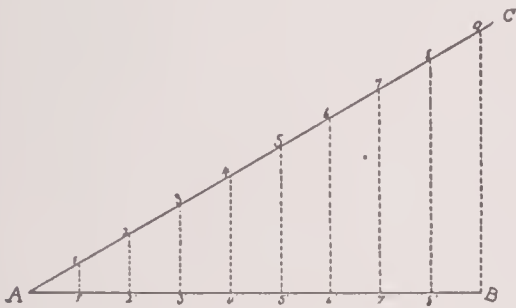

Fig. 8
8. To divide a given line into any number of equal parts (Fig. 8):